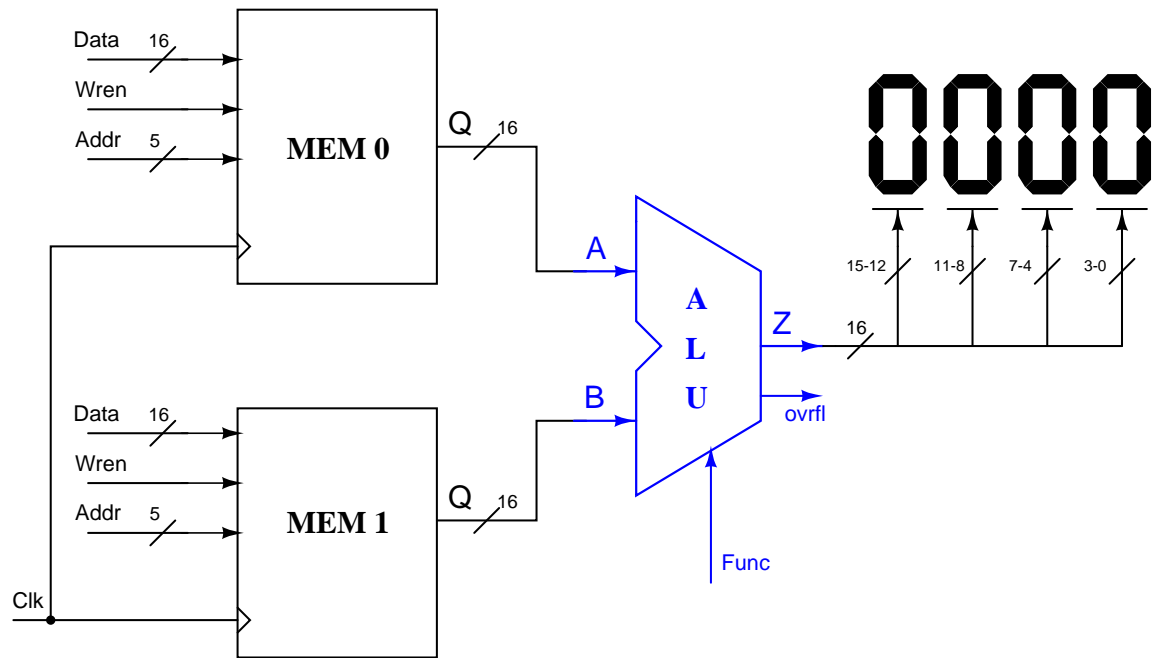

Figure 1: Schematic for testing a 16-bit ALU in FPGA
5. Your design must have the same input and output port names as those in Figure 1
Once the ALU design is ready and has been thoroughly tested in ModelSim, we are ready to synthesize and test the design in FPGA. The complete setup of the design required to test the ALU is as shown in Figure 1. You have to design only ALU. Other components in the figure have already been designed and will be provided to you as a wrapper (hw3.zip) on course website. You have to add the above designed ALU in the project folder.